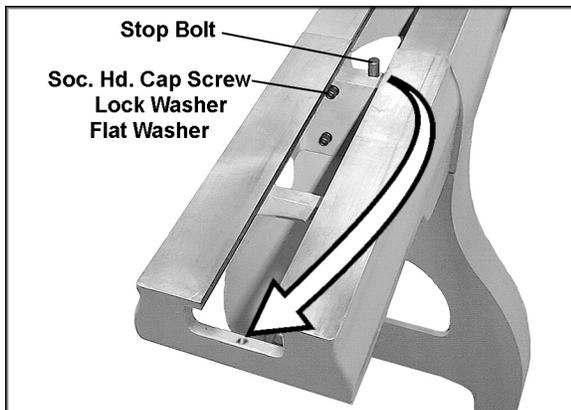

Figure 15
7. Unscrew stop bolt from lathe bed (Figure 15), and insert it into hole at end of bed extension.